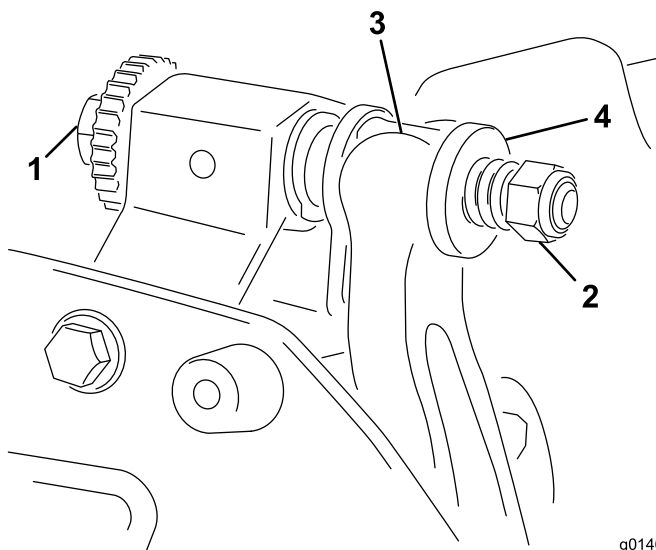

Figure 18
1. Turn the bedbar adjusting-screw counterclockwise to back the bedknife away from the reel (Figure 18).
2. Back out the spring-tension nut until the washer is no longer tensioned against the bedbar (Figure 18).
1. Install the bedbar, positioning the mounting ears between the washers and the bedbar-adjusting screw (Figure 18).